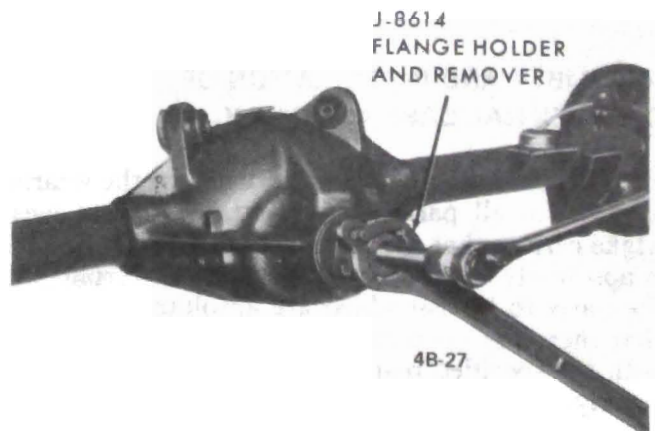

Figure 4B-27 - Removing Pinion Flange
3. Pull pinion flange from pinion using Puller J-8614. To install puller, back out puller screw, insert puller through holder, and rotate 1/8 turn. See Figure 4B-27.